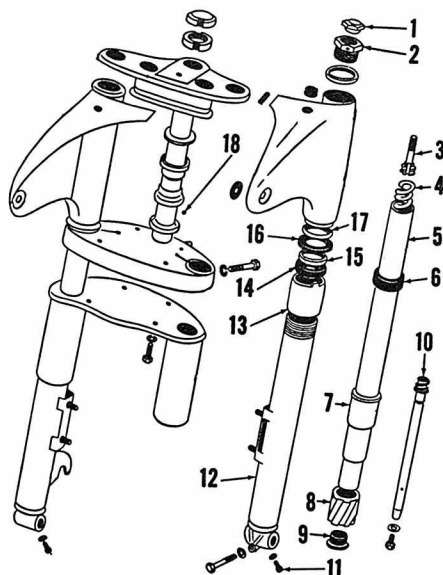

Fig. A2-4—Exploded view of front fork and suspension.
**SUSPENSION.** The front fork is shown in Fig. A2-4. Oil should be drained every 3,000-4,000 miles and refilled with SAE 40 motor oil (SAE 20 or 30 in winter). Each unit should contain 8cc (2½ fl. oz.) of oil.